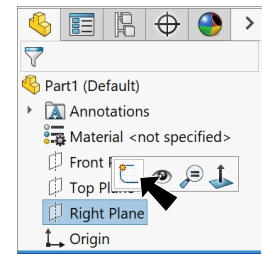

Fig. 1
Step 2. Click **Right Plane**  in the Feature Manager and click **Sketch** on the context toolbar, **Fig. 1**.